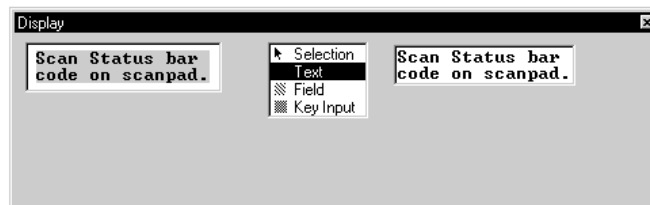

Figure 4-73 Instruct3 Message Entered
46. Press <Enter> to accept the text entry. The entered text appears in the display area at the left of the **Display** window (Figure 4-73).